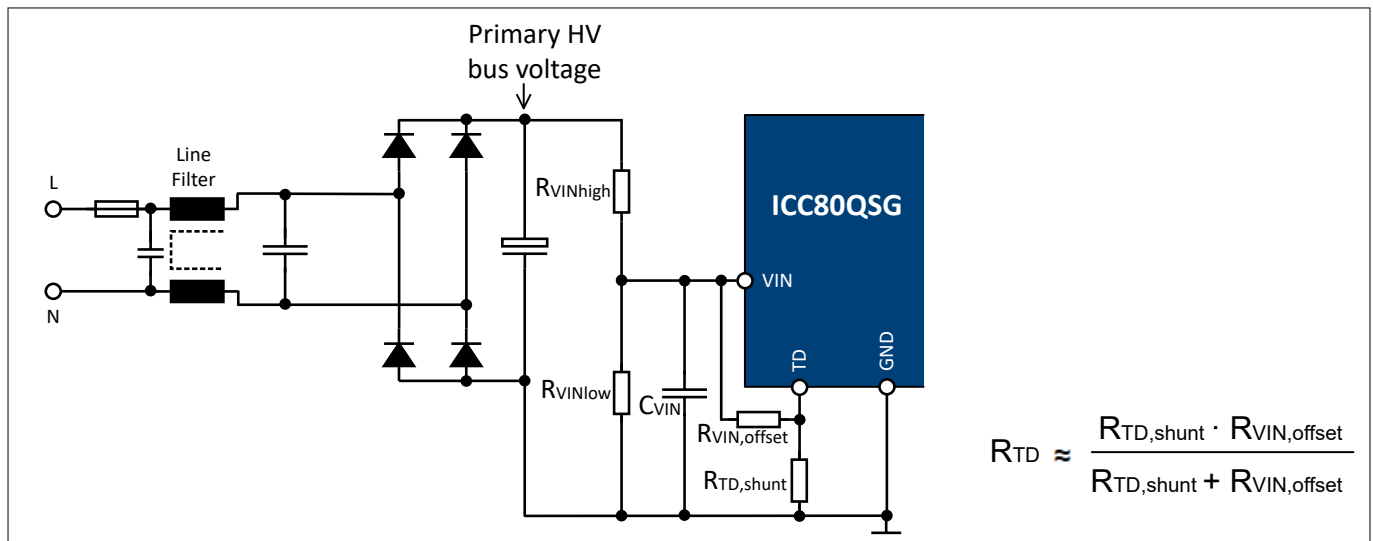
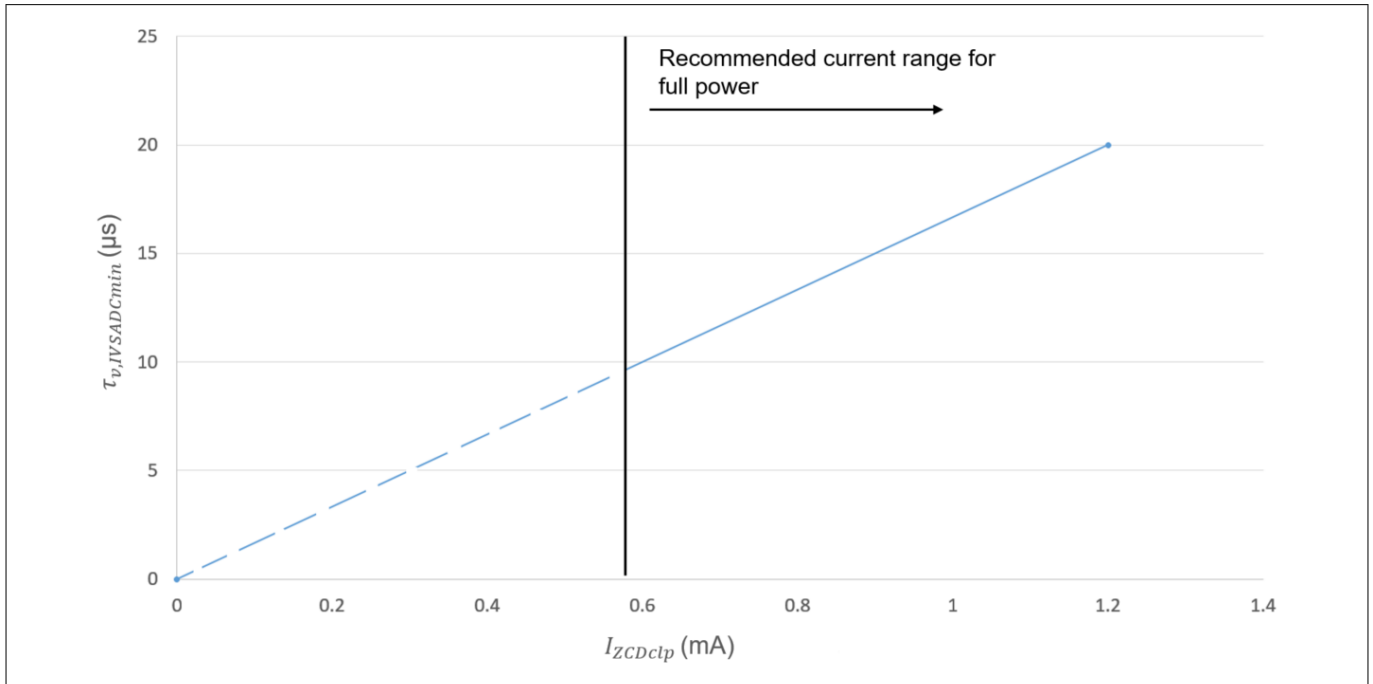
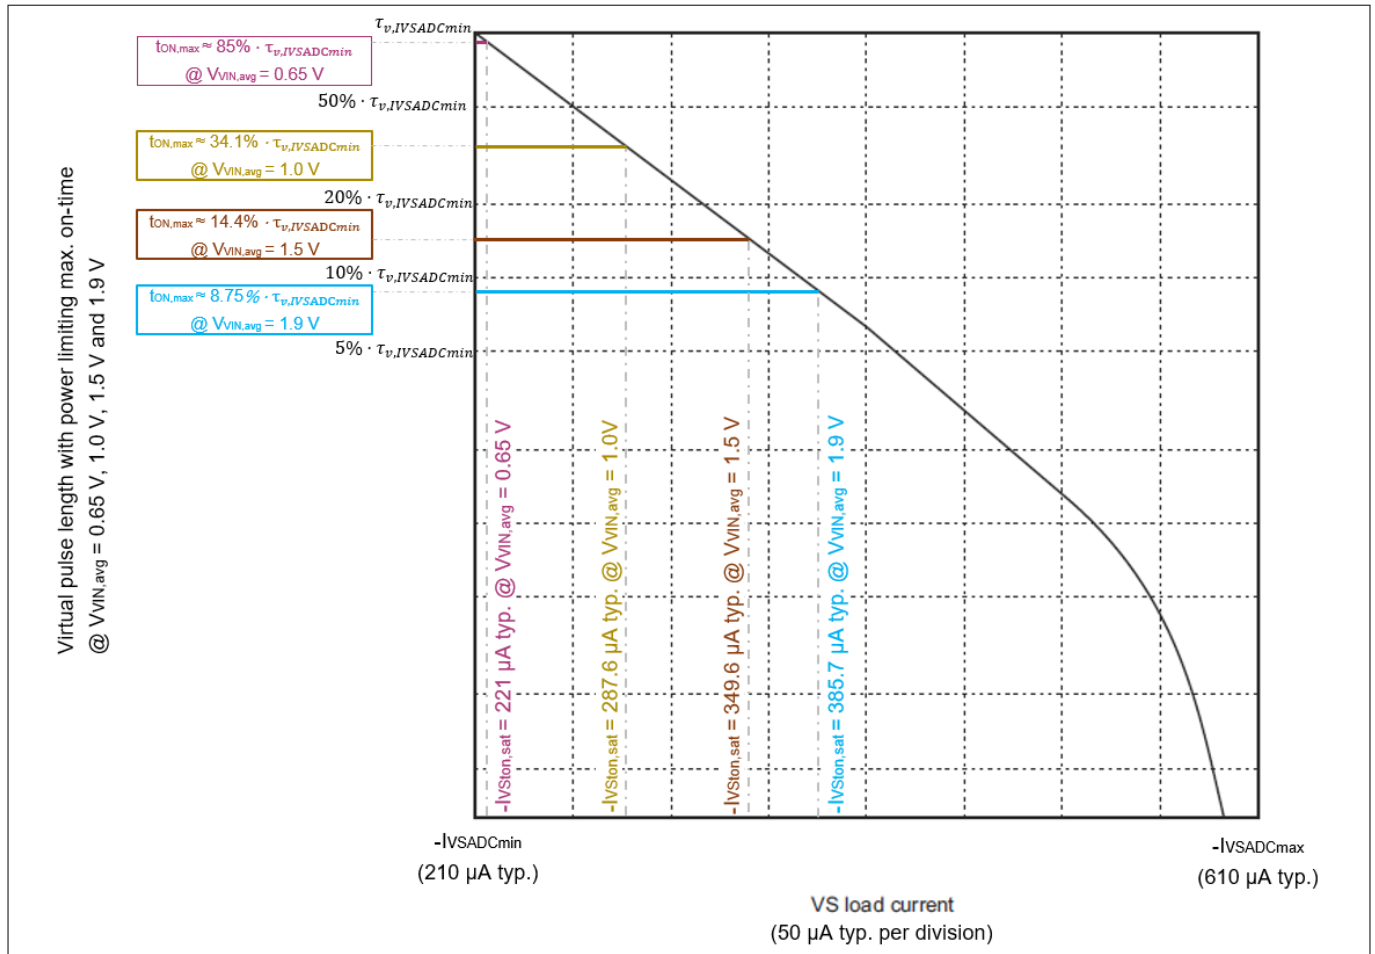

Figure 5 V_{IN} pin circuit
Figure 12 Virtual pulse length at $I_{VSADCmin}$, $\tau_{v,IVSADCmin}$ versus ZCD peak to peak settled clamping current, I_{ZCDclp}
Figure 13 Virtual pulse length mapping with power limiting maximum on-time effect
At higher power transfer, the primary bus voltage ripple is higher, and $V_{VIN,avg}$ becomes lower. As a result, a relatively higher AC input brownout protection level can be triggered at higher power transfer, to better protect the primary components from overheating and saturation in case of input under-voltage condition occurs. Apart from that, the hysteresis between AC input brownin and brownout level can be added externally with $R_{VIN,offset}$, as shown in Figure 5. It works by creating an offset voltage on the V_{IN} pin when the TD pin internal pull-up is enabled in RUN state.
When the $R_{VIN,offset}$ is connected between TD pin and V_{IN} pin, R_{TD} can be approximated based on the equation shown in Figure 5. The R_{TD} detected in the pre-start-up phase must be designed to be at least 27 k Ω when TD pin is internally pulled up by $R_{TD,RUN}$, and not more than 68 k Ω when TD pin is internally pulled up by $R_{TD,flyback}$, to activate the VS pin load current sensing for output regulation and stay within the TD configuration limit.
Based on Equation 4, the equation for R_{TD} approximation in Figure 5 can be derived, when a resistor $R_{VIN, offset}$ is added between VIN pin and TD pin to configure the brownin and brownout hysteresis.
1. Based on $I_{ZCDclp} = 1.2$ mA, obtain $\tau_{v,IVSADcmin} = 20$ μ s from Figure 12.
For $t_{ON,max}$ estimation, it is important to note that $\tau_{v,IVSADCmin}$ changes with different $V_{VIN,avg}$ level, when the input voltage detection circuit in Figure 5 is applied. This is because $\tau_{v,IVSADCmin}$ is scaled depending on I_{ZCDclp} in Figure 12, while I_{ZCDclp} is dependent on the input voltage, as explained in ZCD pin signal sensing.
Figure 13 shows the virtual pulse length with the power limiting maximum on-time effect, when $V_{VIN,avg}$ is 0.65 V, 1.0 V, 1.5 V and 1.9 V, respectively.
When $V_{IN,avg}$ is at the brownin level ($V_{BI} = 0.647$ V typ.), the power limitation is enabled with $t_{ON,max} =$ approx. 85% of $\tau_{v,IVSADCmin}$, as shown in Figure 13. For example, if the desired $t_{ON,max}$ at brownin level is 17 μ s typ., it is necessary to have $\tau_{v,IVSADCmin} = 17 \mu$ s / 85% = 20 μ s. And, according to Figure 12, $\tau_{v,IVSADCmin} = 20 \mu$ s is obtained when $I_{ZCDclp} = 1.2$ mA is applied. As a result, to achieve $t_{ON,max} = 17 \mu$ s typ. at brownin level, R_{ZCD} should be dimensioned to produce $I_{ZCDclp} = 1.2$ mA typ. at brownin level.